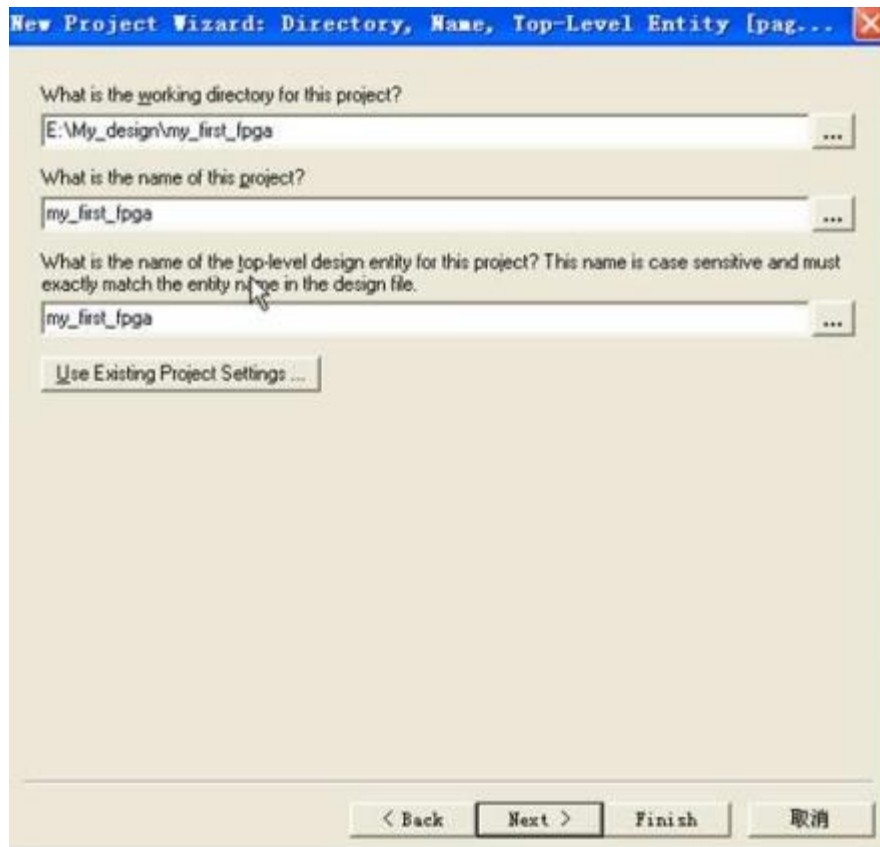

Figure 2-2 Project information
- e. What is the name of the top-level design entity for this project? Type my_first_fpga. See Figure 2-2.